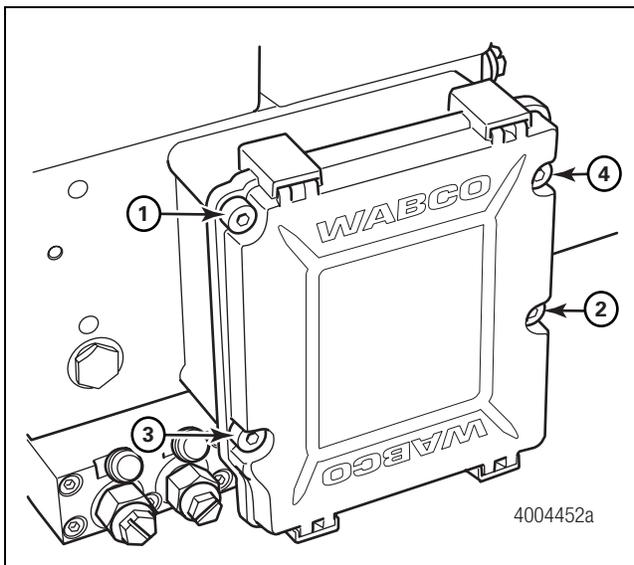

Figure 4.23
3. Use a 4 mm Allen wrench to tighten the four mounting screws that attach the ECU to the HCU. Tighten to 14 in-lb (1.5 N•m). Do not exceed this torque. The metal sleeves on the ECU housing must rest flat on the body of the HCU. Tighten the screws using the correct sequence. Figure 4.23. 🔧